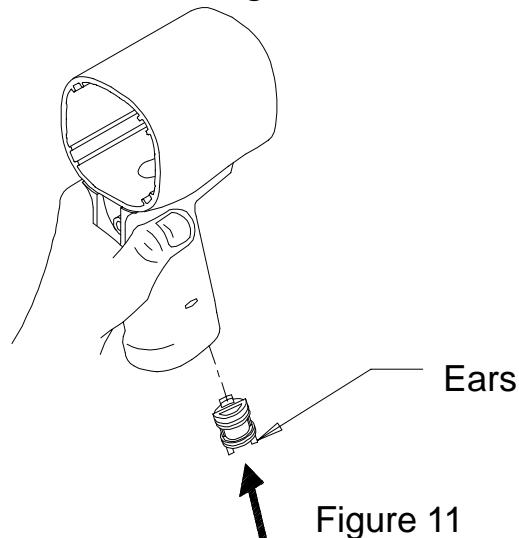

Figure 11
1. Install the Bottom Reverse Valve O-ring (37) (color-coded blue) and the Top Reverse Valve O-ring (36) on the Reverse Valve (35).
2. Insert the Reverse Valve in the bottom of the handle making sure that two ears on the Reverse Valve are facing downward. See Figure 11.